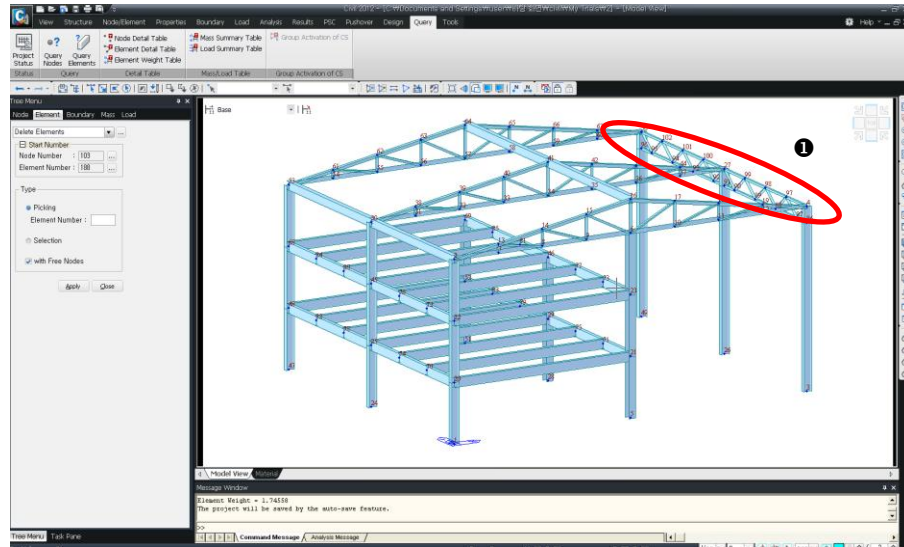

Figure 2.13 Generation of Longitudinal truss
1. Click  *Rotate Dynamic* in the Icon Menu and rotate the model as shown in Fig.2.13.
7. Click  (Figure 2-13-①).
9. Click  **Iso View** in the Icon Menu (Figure 2-13).